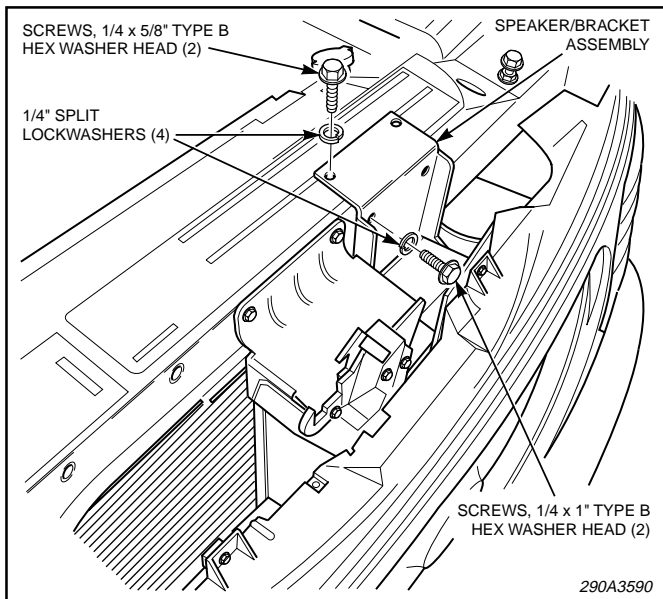

Figure 4.
d. See figure 4. Locate the two mounting holes that secured the plastic panel to the radiator crossbar on the driver's side of the vehicle. Align the speaker/bracket assembly's mounting holes with the plastic panel's mounting holes. Secure the speaker/bracket assembly in position with two 1/4" x 1" thread-forming screws and split lockwashers.
g. To complete the mounting, secure the speaker/bracket in position using the 1/4" x 5/8" thread-forming screws and split lockwashers. See figure 4.